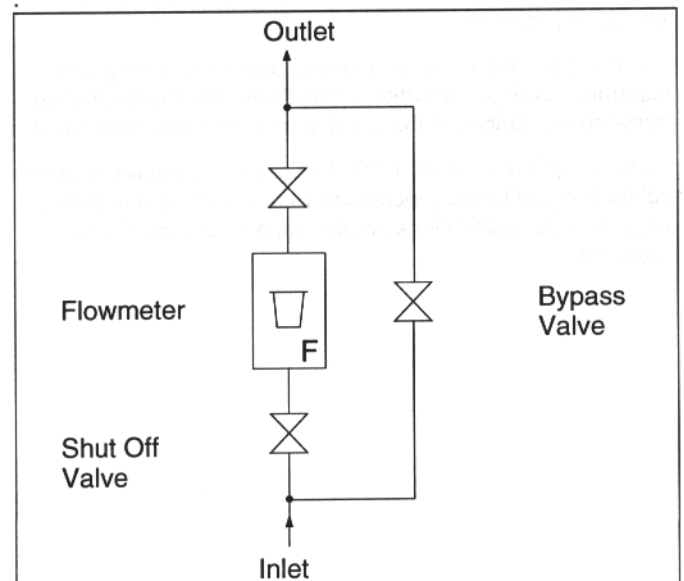

Fig. 4 Installation Example
- When the flowmeter is to be installed in a pipeline in which interruption of service is undesirable or impossible, a bypass line should be installed as shown in Fig. 4.
In such applications we recommend the use of a magnetic separator. During installation of the flowmeter it is positioned between the flanges of the pipeline and the meter (see Fig. 4 ).